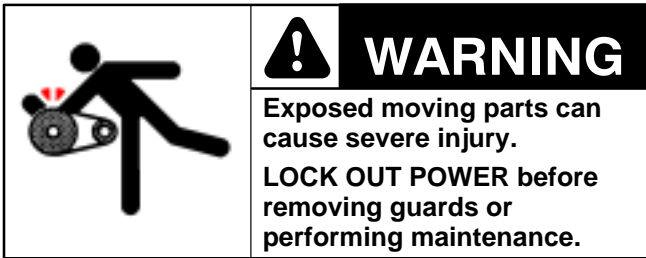

Figure 28
5. Insert rod retaining end caps (AG of figure 28) on both sides of belt.